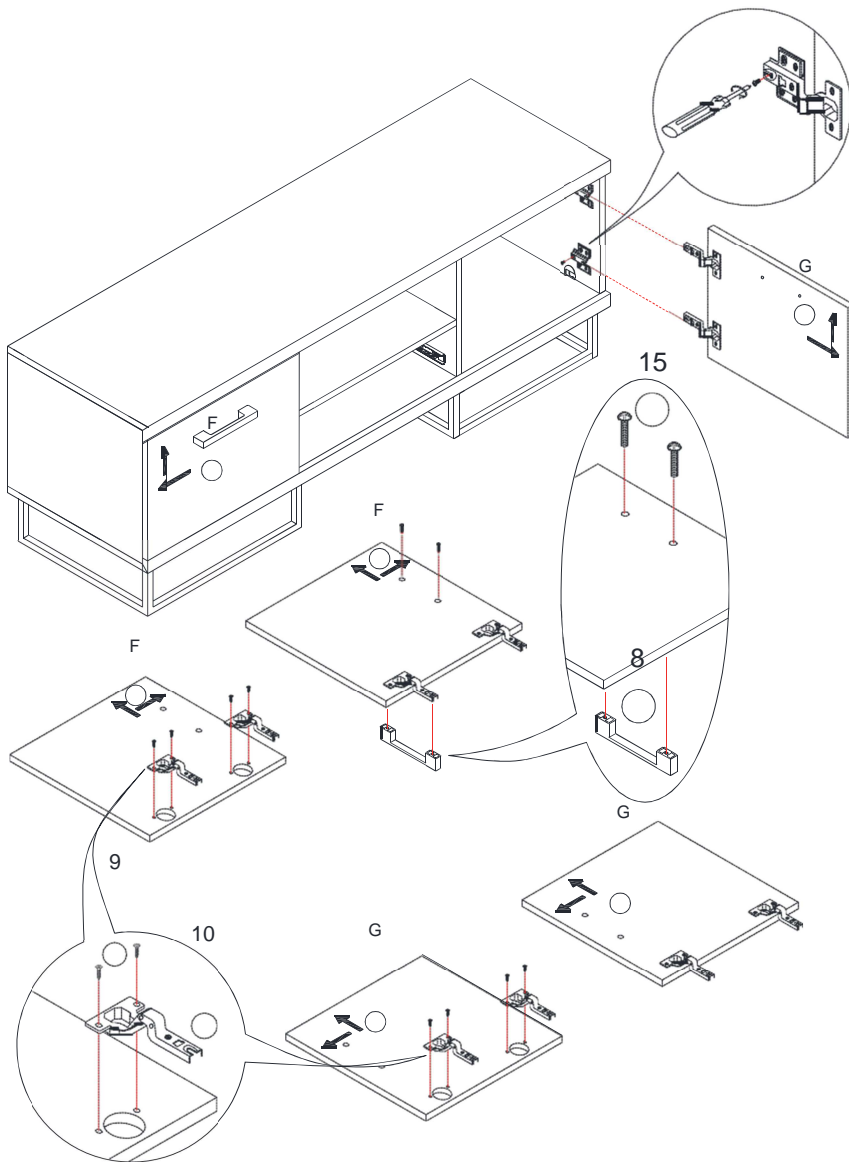

Figure 8
Tighten the hinges (10) on the left door panel (F) and right door panel (G) using screws (9) as shown in figure 8.
Tighten the door handles (8) to the door panels (F) and (G) using screws (13) through the pre-drilled holes as shown in figure 8.
Loosen the screws attached to the hinges(8), and tighten doors (F) and (G) as shown in figure 8. Once the doors have been attached, tighten the screw that's attached to the hinges and adjust accordingly.